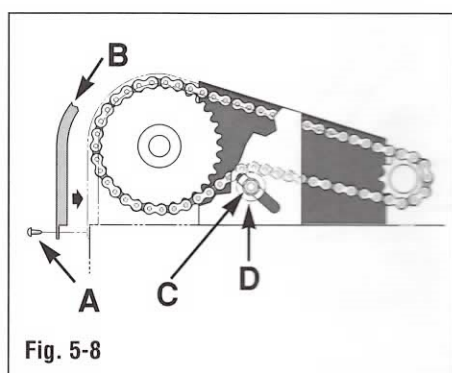

Fig. 5-8
1. Remove the #10 hex head screw (A, Fig. 5-8) and slide off the chain cover (B).
2. If the chain is slack, loosen nut (C) and adjust chain idler (D) until the chain deflects slightly with moderate finger pressure. Secure the nut (C) in the adjustment slot. Loosening the lock nuts (D) is not necessary.